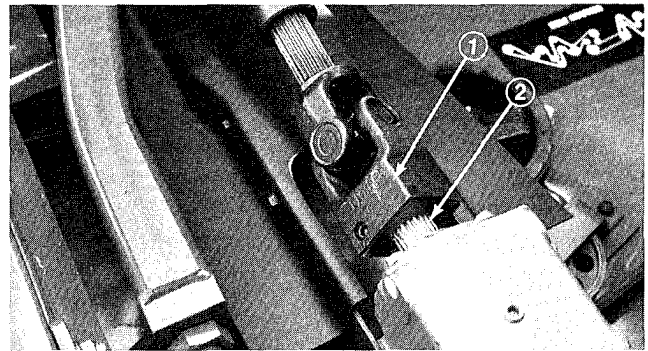

Figure 58
5. Remove socket head screws securing drive shaft yoke gear box input shaft. Slide yoke off shaft (Fig. 58).